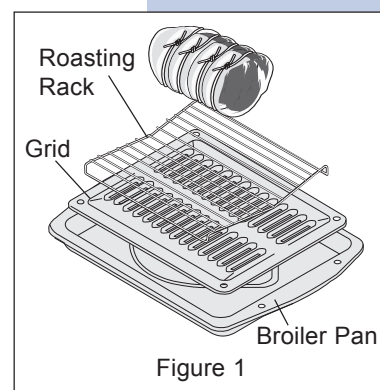

Figure 1
- Always use the broiler pan and its grid when broiling. It allows the dripping grease to be kept away from the high heat of the broil element (see Figure 1).
- Use the broiler pan and grid, and the roasting rack (Figure 1). The broiler pan will catch grease spills and the grid will help prevent splatters. The roasting rack will hold the meat.